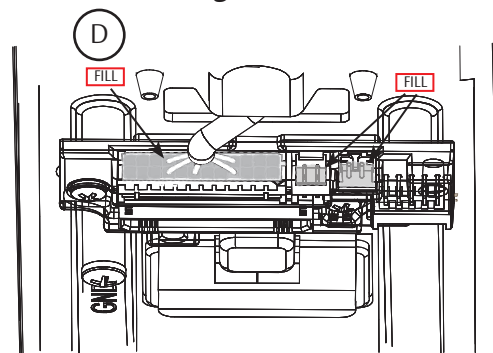

Figure 11-3C
D. Ensure all openings on back of secured connectors are covered completely with grease. (Figure 11-3C)